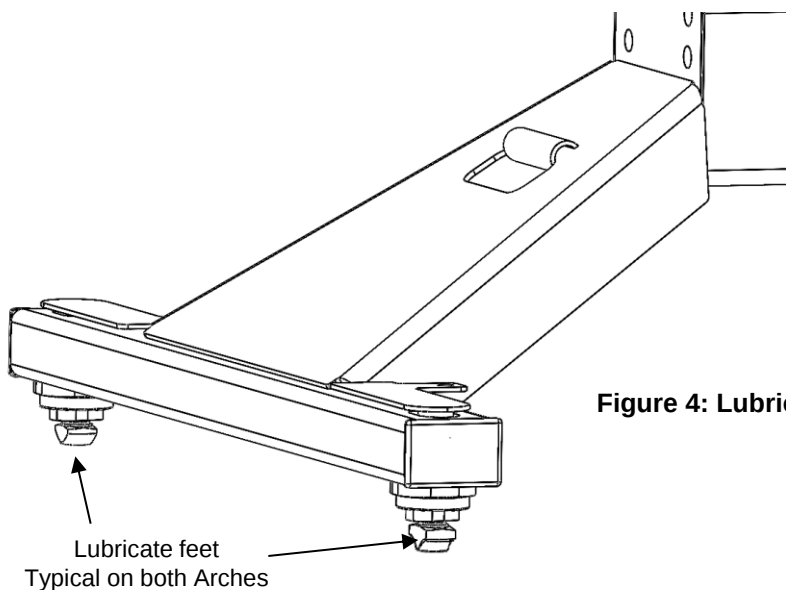

Figure 4: Lubrication Points
3. Lubricate feet with lithium grease for easier engagement as shown in Figure 4.
- Remove hitch assembly and lubricate tee pins in bushings with lithium grease (see Figure 4). Replace unit in pucks.